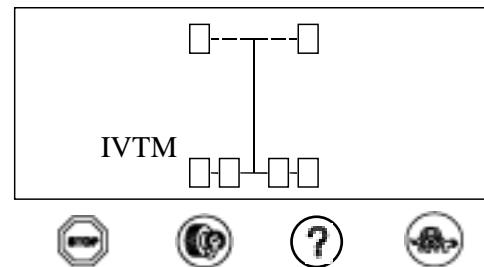

Fig. 3
**Example:** If the three axles trailer is connected to shown vehicle, Fig. 3 is changed to: